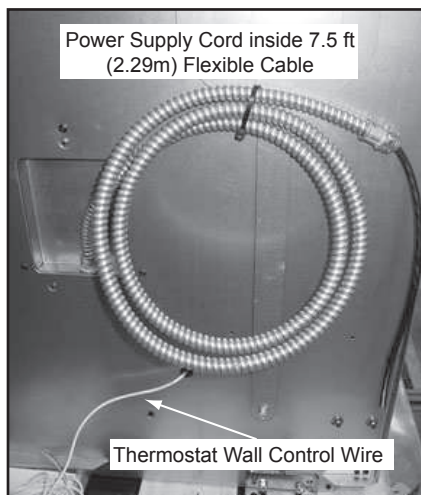

Figure 34.1 - Power Supply Cord and Wall Control Wire
2. The power supply cord is inside a 7-1/2 foot (2.29m) long 3/8 inch (9.5mm) flexible conduit cable located and attached to the left side of the outer can. **Figure 34.1.** The cable comes with an insulated snap-in connection.
2. Route the 25 foot (7.62m) long white wall control wire that is supplied in the component pack through the rubber grommet in the left side of the fireplace outer can. **Figure 34.1**